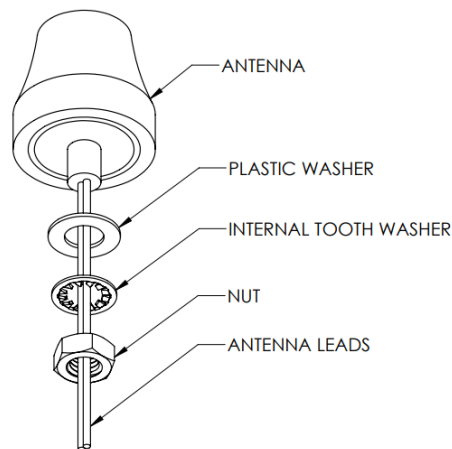

Figure 11 Exploded view of the antenna and its associated hardware.
- Untwist the ties on the antenna cables and remove the nut, tooth lock washer, and red plastic washer (see Figure 11).